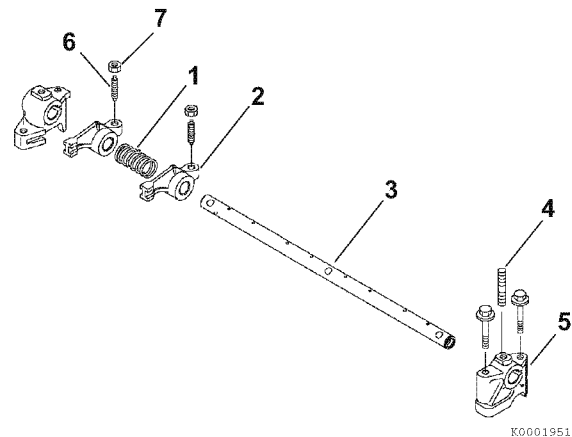

Figure 6-34
1. Lubricate the rocker arm shaft. Slide the rocker arm supports (**Figure 6-34, (5)**), springs (**Figure 6-34, (1)**) and rocker arms (**Figure 6-34, (2)**) onto the shaft.
- To properly align the rocker arm shaft with the rocker arm shaft supports, first reinstall a rocker arm support (**Figure 6-34, (5)**) having a hole for the shaft alignment stud (**Figure 6-34, (4)**). Align the hole in the rocker arm shaft and the hole in the rocker arm support. Reinstall the alignment stud.
Note: **Figure 6-34** shows components for one cylinder. Components for all remaining cylinders are assembled in the same order.
- If removed, reinstall the valve adjusting screws (**Figure 6-34, (6)**) and the lock the nuts (**Figure 6-34, (7)**).